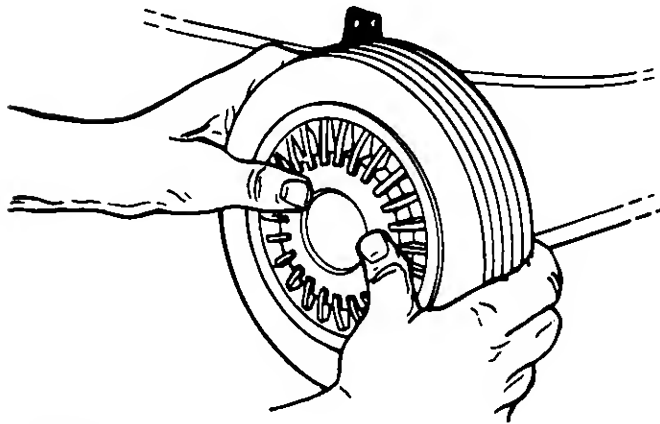

FIGURE 9.
2. Place hub caps in position against the inner hub of the wheel. Press firmly around the center portion of hub cap in a circular motion, similar to installing a lid on a round, plastic container. See figure 9. The hub caps are flexible and will snap over the 3½" diameter wheel hubs.